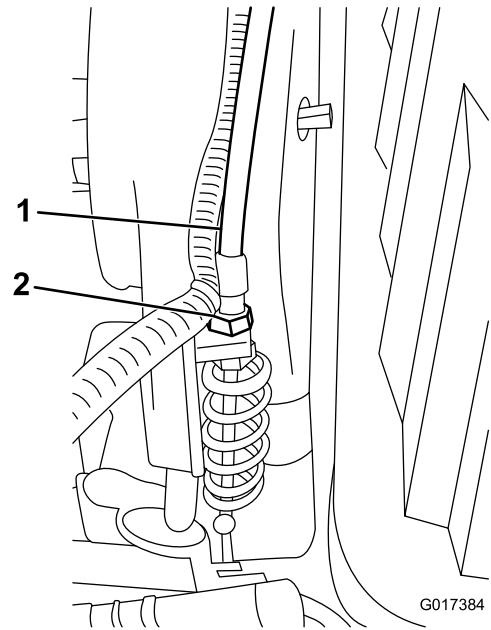

Figure 45
3. At the transmission bulkhead, adjust the reel control cable (Figure 45), to attain a spring length of 2.78-2.85 inches (70.6-72.4 mm).